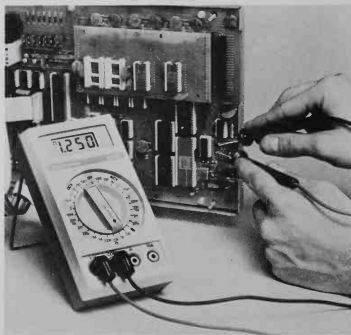

Fig. 11-1. Modern digital meter.
Other special purpose meters measure watts, watt-hours, frequency, capacitance, inductance, and other characteristics of circuits. Meters indicate on either digital readouts or calibrated scales the value of the measured electrical quantity. See Figs. 11-1 and 11-2. The accuracy of measurement is dependent upon the skill of the technician and the quality of the instrument. Manufacturers of measuring
5. Be sure all switches are correctly set for range and type of measurement to be made. See Figs. 11-1 and 11-2.